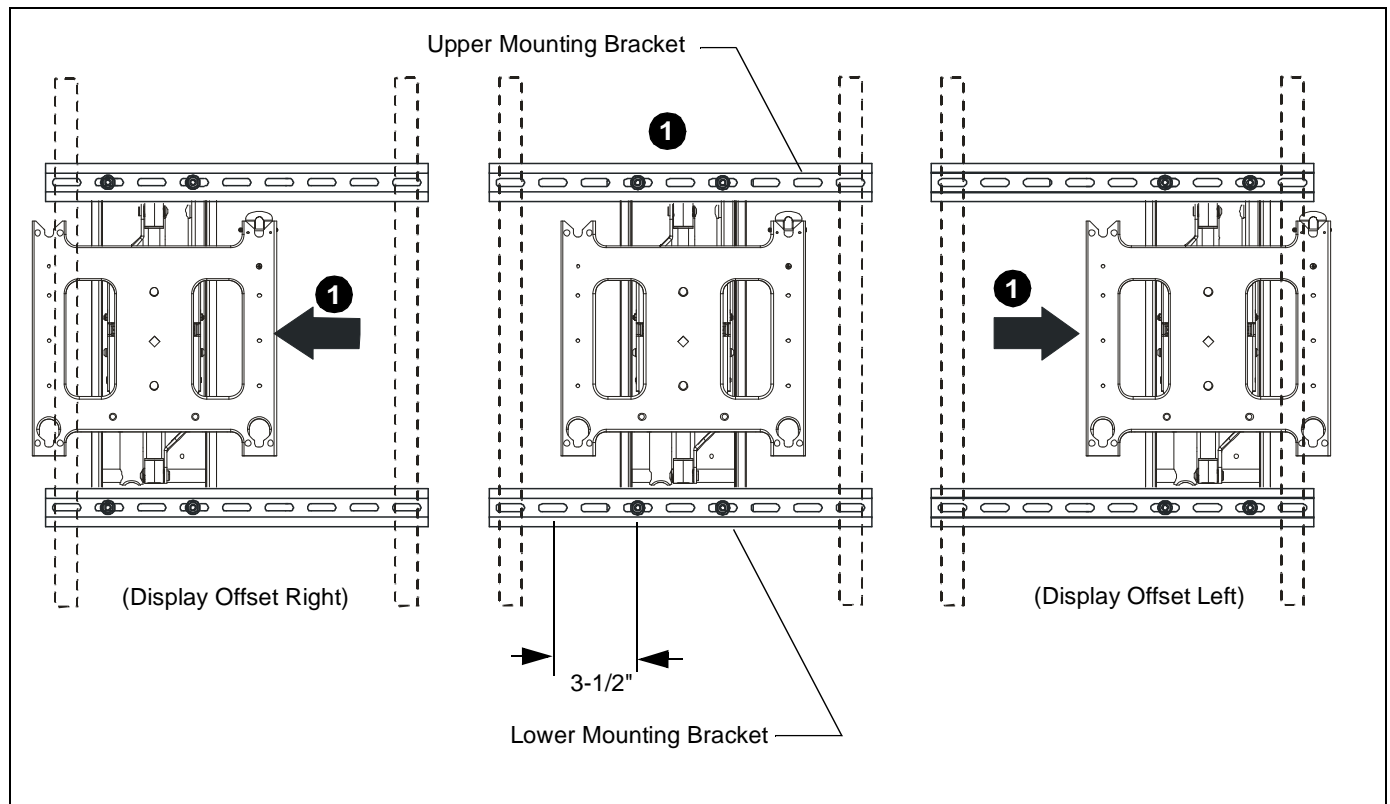
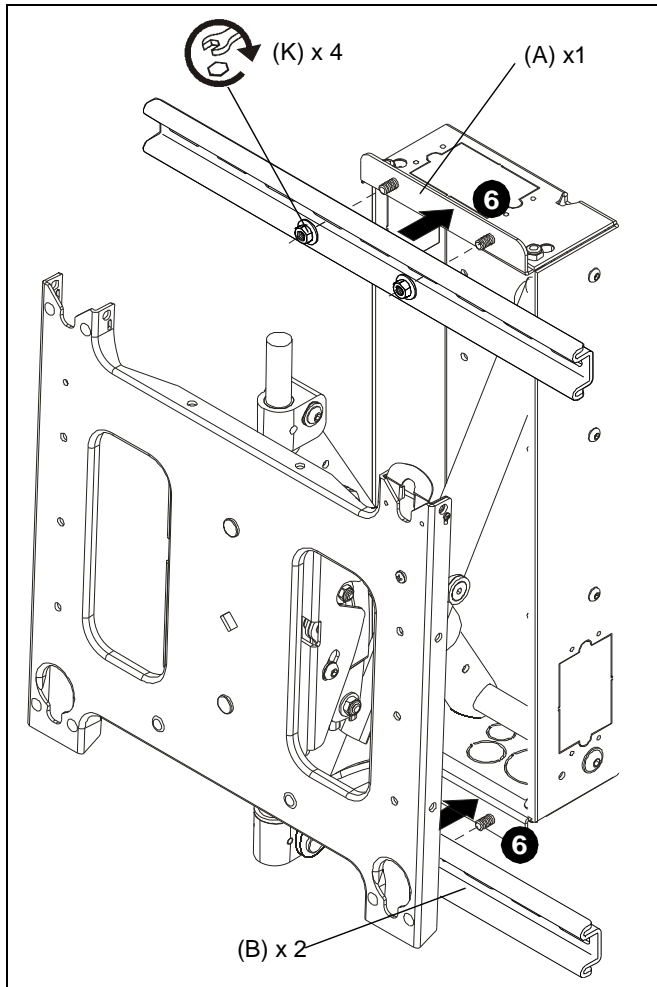

Figure 3
Figure 4
The PIWRF Series is designed to accommodate up to 3-1/2" of lateral shift adjustment (right or left display offset from center of studs). This is accomplished by aligning the upper and lower mounting studs on the housing with either the right hand or left hand mounting holes in the upper and lower mounting brackets. (See Figure 3)
3. Determine desired lateral shift required. (See Figure 3)
6. Assemble upper and lower mounting rails (B) to mount (A) in slots that correspond to the desired lateral shift offset identified during Step 3 above using four flanged nuts (K) assembled to mount (A). (See Figure 3) and (See Figure 4)
7. Install J-box(s) [not included] and route all in-wall cables and wiring to mount enclosure keeping in mind the lateral shift offset determined during Step 3 above. (See Figure 3)